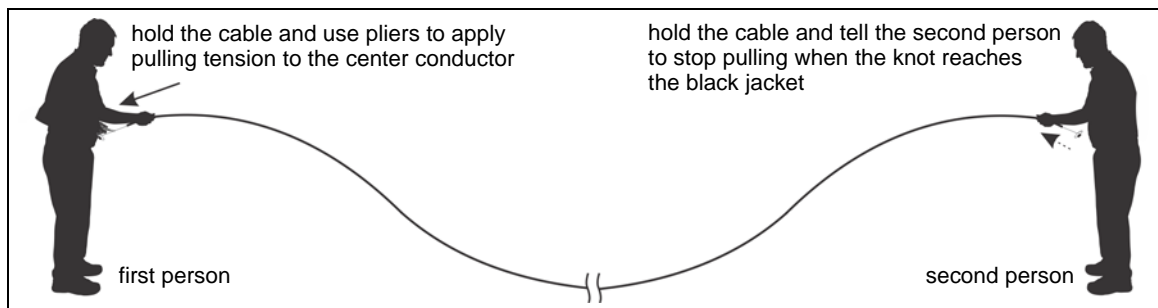

Figure 20: FlexZone cable conditioning (part 2 cable flossing)
2. The first person then uses pliers to apply 2.3 to 4.5 kg (5 to 10 lb) of pulling tension to the center conductor while maintaining a firm grip on the cable's black jacket (see Figure 20:). The second person holds the cable firmly by the black jacket and tells the first person to stop pulling when the knot reaches the black jacket.